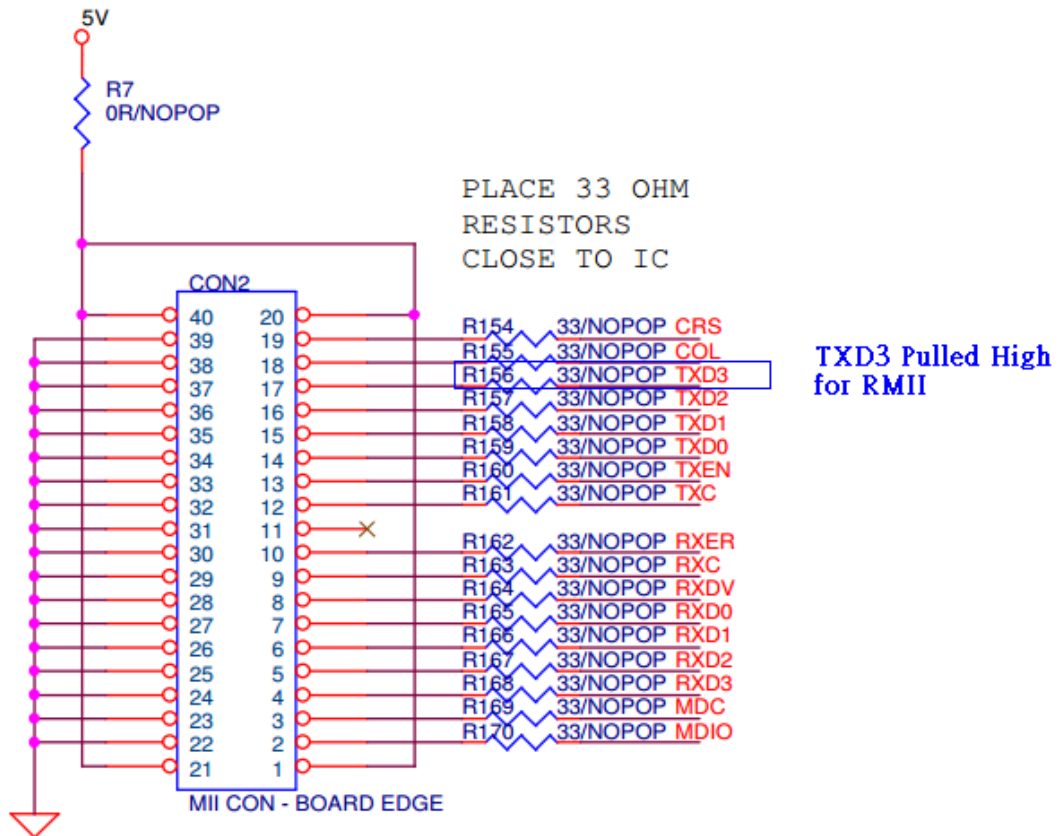

Figure3
TXD3 (pin12) Pulled high with 4.7K for Reverse MII as Figure3.
c. Connected CON2 as Figure3 to CPU RMII with Figure1.